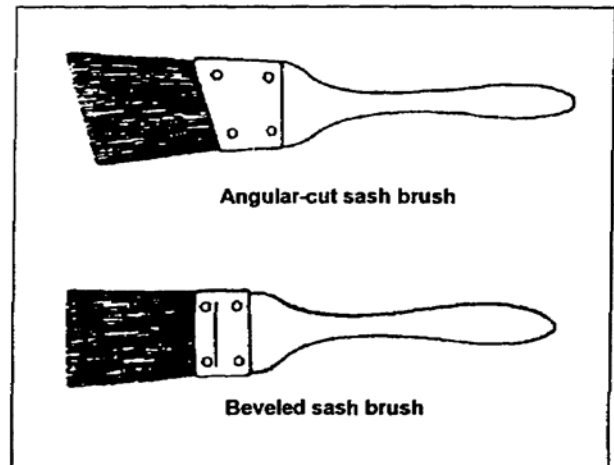

Figure 3-25. Sash and trim paintbrushes
- Sash and trim surfaces. Sash and trim paintbrushes (Figure 3-25) vary in shape and size, but most are 1 to 3 inches wide. To get close to windowpanes, one paintbrush has bristles that are beveled like a cold chisel. An angular-cut sash paintbrush is used by some painters when painting hard-to-reach spots. Another type preferred by some painters is almost oval in shape.